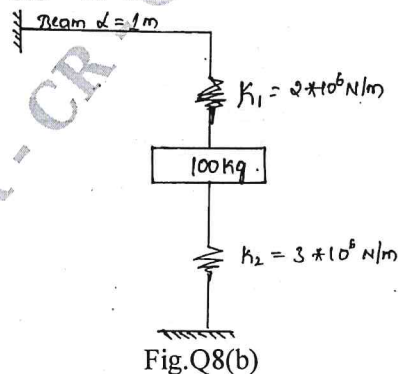

Fig.Q8(b)
b. Determine the equivalent stiffness of the system shown in Fig.Q8(b).